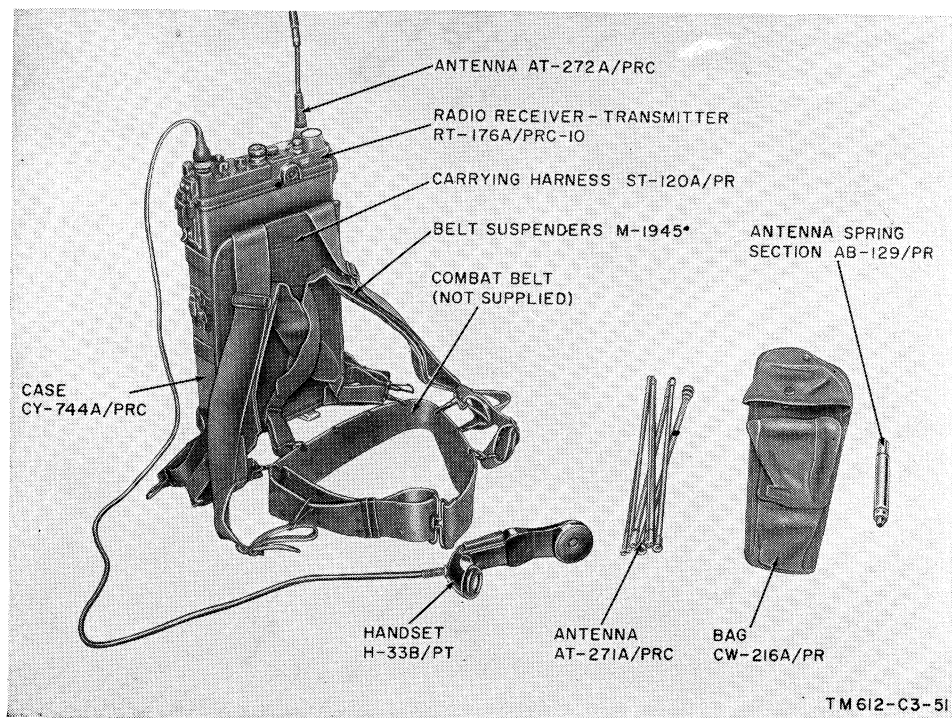
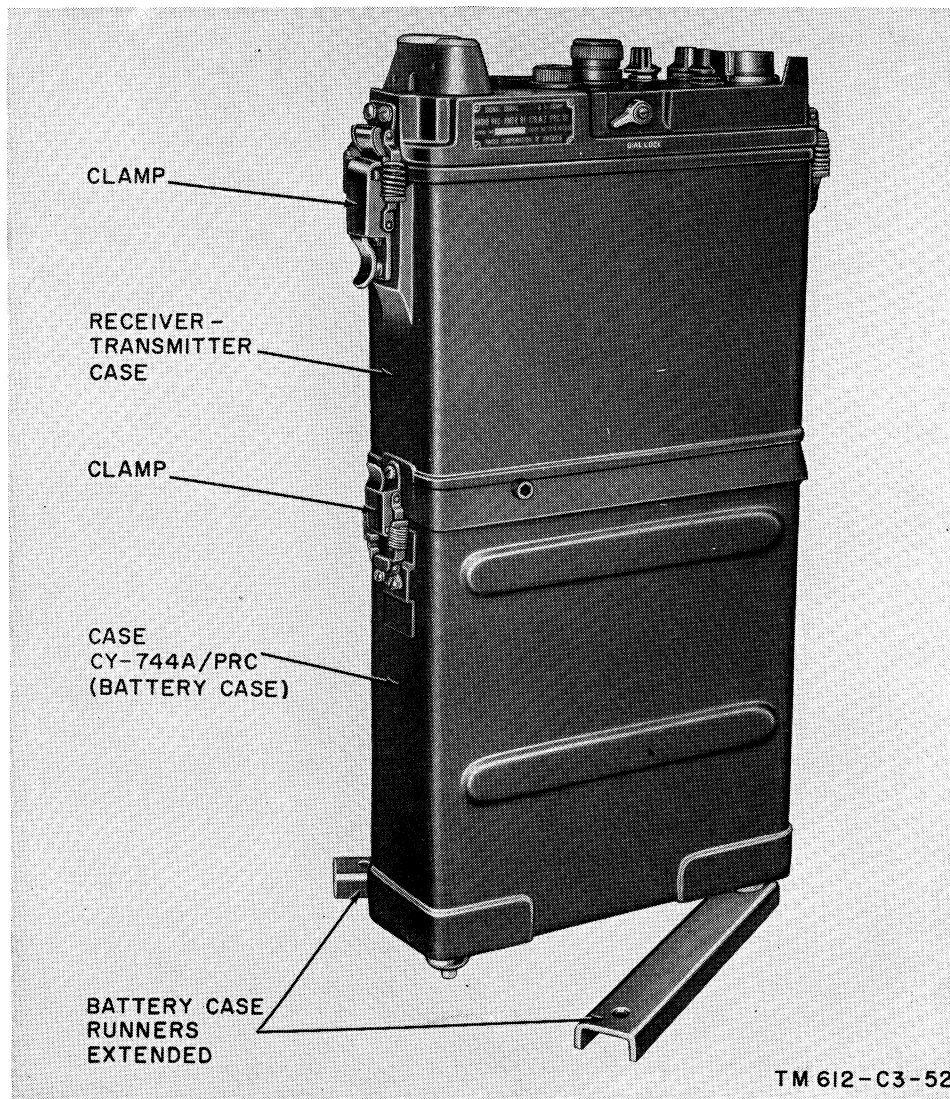
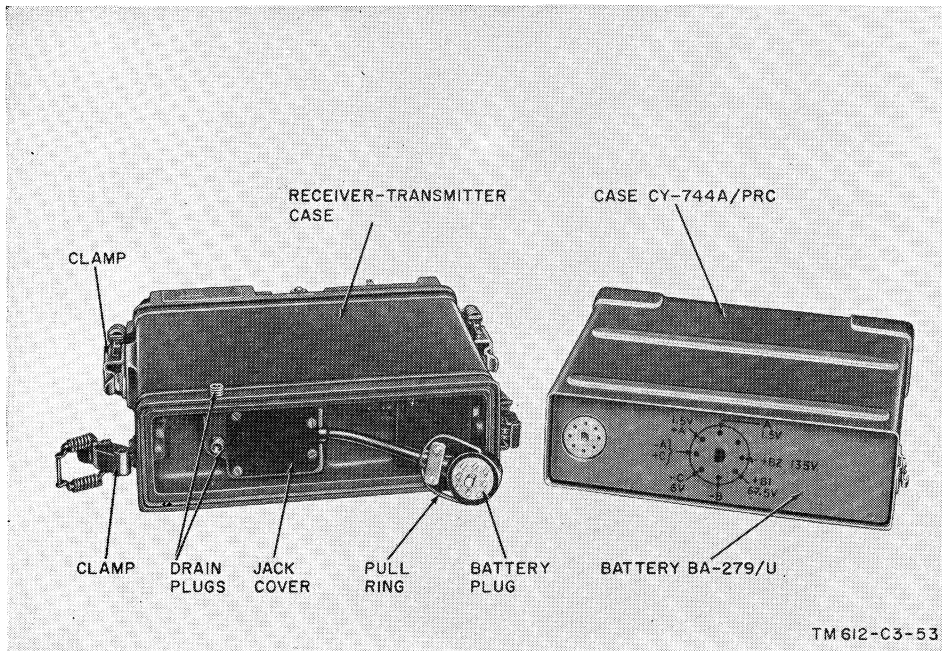
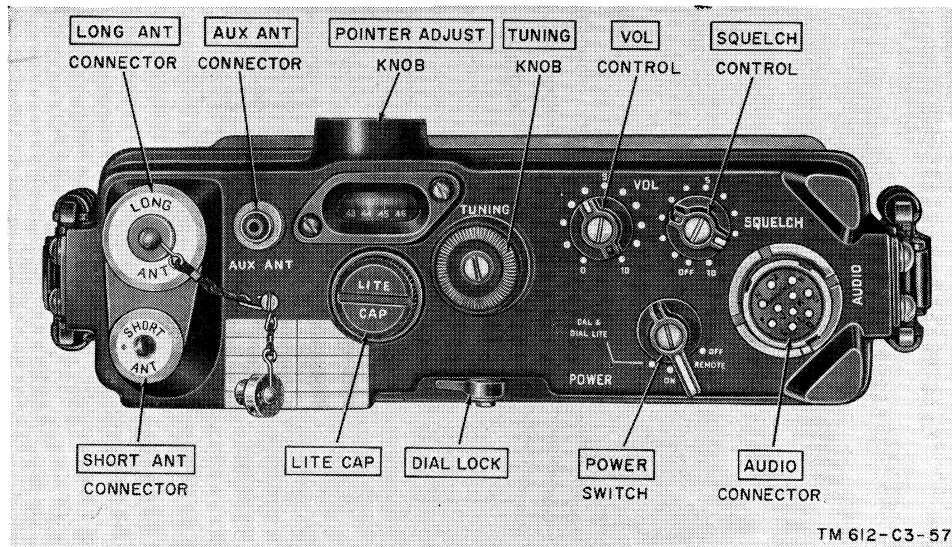

Figure 2. Radio Set AN/PRC-10A, operating components.
Figure 4. Receiver-transmitter and battery cases, connected.
Figure 5. Receiver-transmitter and battery cases, disconnected.
Figure 6. Receiver-transmitter control panel.
The list of components of the radio set is presented in the following chart, together with the running spares. The components and spares are shown in figures 2 and 3, respectively.
The radio set consists of a receiver-transmitter, a battery case, and minor components as shown on figure 2 and listed in paragraph 7. The receiver-transmitter is secured to the battery case by two spring clamps (fig. 4) to form a watertight seal. Runners at the bottom of the battery case may be spread apart as shown to support the radio set on a horizontal surface. Figure 5 shows the receiver-transmitter and battery cases disconnected.
in a case to which it is secured by two spring clamps located on the sides and near the front of the case (fig. 5). The controls and connectors are located on the front panel (fig. 6). The battery plug is located at the end of a short cable at the rear of the receiver-transmitter (fig. 5). The two spring clamps at the front of the receiver-transmitter case are used to secure it to the front panel. The connections between the front panel and the receiver-transmitter case and between the battery case and the receiver-transmitter case are watertight.
a. Case CY-744/PRC or CY-744A/PRC (fig. 4). Fastened to the bottom of the aluminum
b. *Antenna AT-271/PRC or AT-271A/PRC* (fig. 2). This is the long antenna and is made up of seven sections, each one fitting into the ferrule of the previous one. A stainless steel cable, nylon covered, under spring tension and running through the sections keeps them together when in the extended position. When folded, the cable keeps the sections together as a group, thereby preventing the loss of individual sections. Spring tension is provided by a spiral spring in the base section. This antenna is used when maximum range is necessary, such as for two-way unattended relay service or stationary use, and is screwed into the spring section which is in turn screwed into the LONG ANT connector on the control panel.
c. *Antenna AT-272/PRC or AT-272A/PRC* (fig. 2). This is the short antenna and consists of several lengths of flexible steel tape riveted together at the base and at points along their
d. *Antenna Spring Section AB-129/PR* (fig. 2). The spring section protects the long antenna and the LONG ANT connector from damage which would otherwise be caused by excessive bending or swaying of the antenna.
g. *Belt Suspenders M-1945.* The suspenders (fig. 2) support the operator's combat belt and the equipment in a harness. The suspenders are padded at the shoulders and are adjustable to fit the operator. At the top of the shoulders is a loop slide on each suspender to which the harness is fastened.
h. *Carrying Harnesses ST-120/PR and ST-120A/PR.* The harness (fig. 2) is fastened to the equipment by three adjustable straps. On Carrying Harness ST-120/PR, the bottom strap has two rings sewn into it for securing the
- (1) Stand the radio set on a bench or on the ground, with the control panel up. Make sure that the POWER switch is at OFF. Release the lower clamps (one on each side of the case) by pushing the topmost part of the clamp downward and outward at the same time.
- (2) Lift the receiver-transmitter off the battery case and set it down, with the battery plug on the bottom (fig. 5) facing the operator. Set the battery on the same surface so that the battery socket is on the side on which the receiver-transmitter plug falls naturally. Hold the pull ring to the rear of the plug and insert the plug into the battery socket, being careful to locate the key on the plug properly. Move the pull ring to the cable side of the plug and slide the battery against the bottom of the receiver-transmitter.
- (3) Keep dirt out of the case. Slide the battery case over the battery until it seats against the receiver-transmitter. Fasten the catches by hooking the